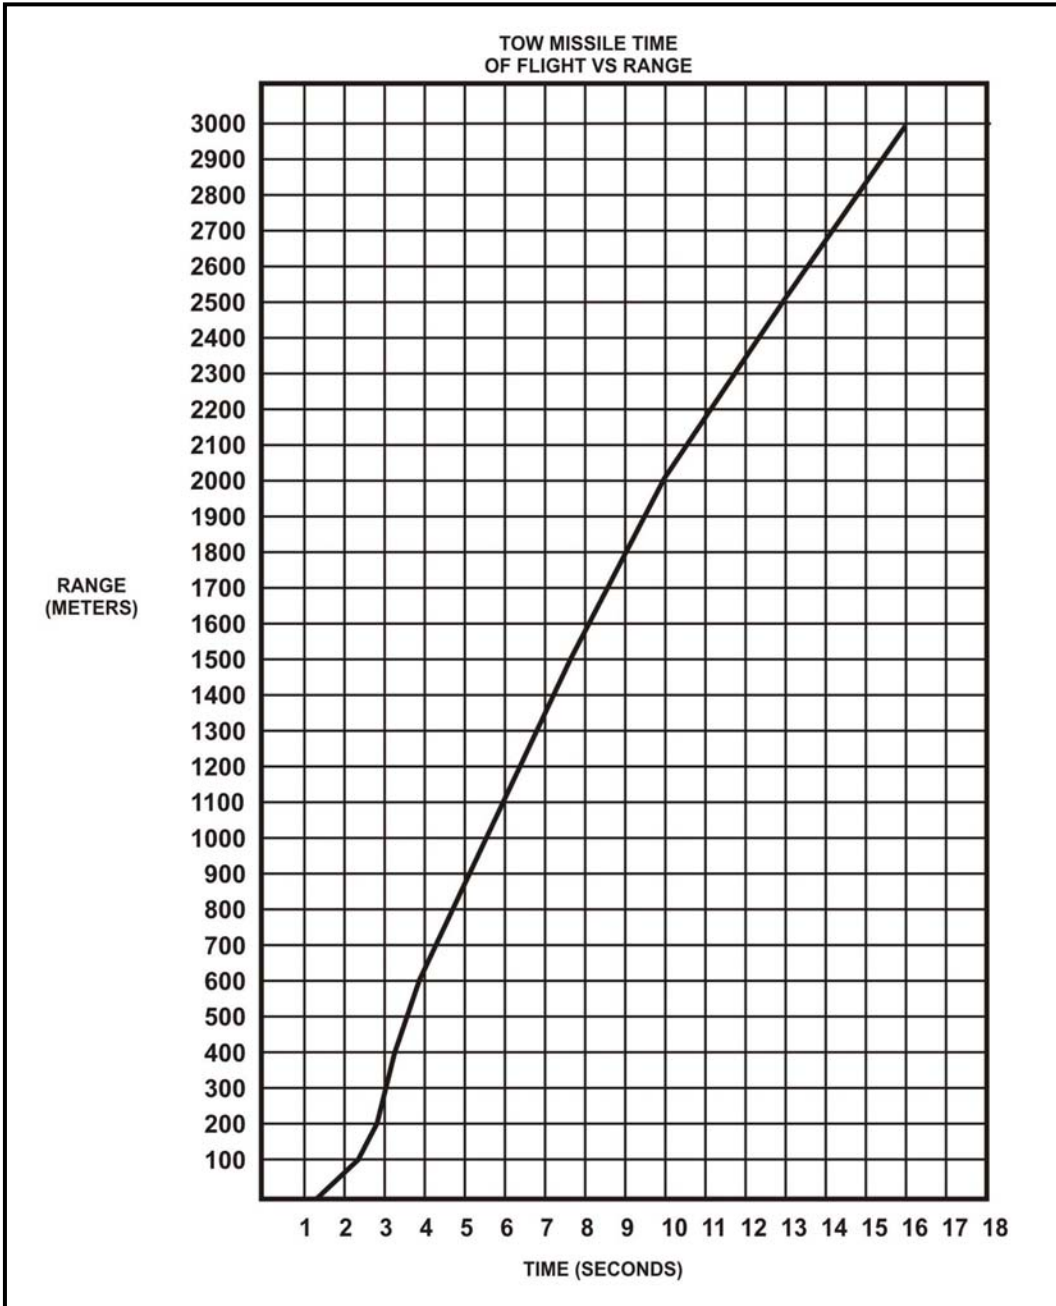
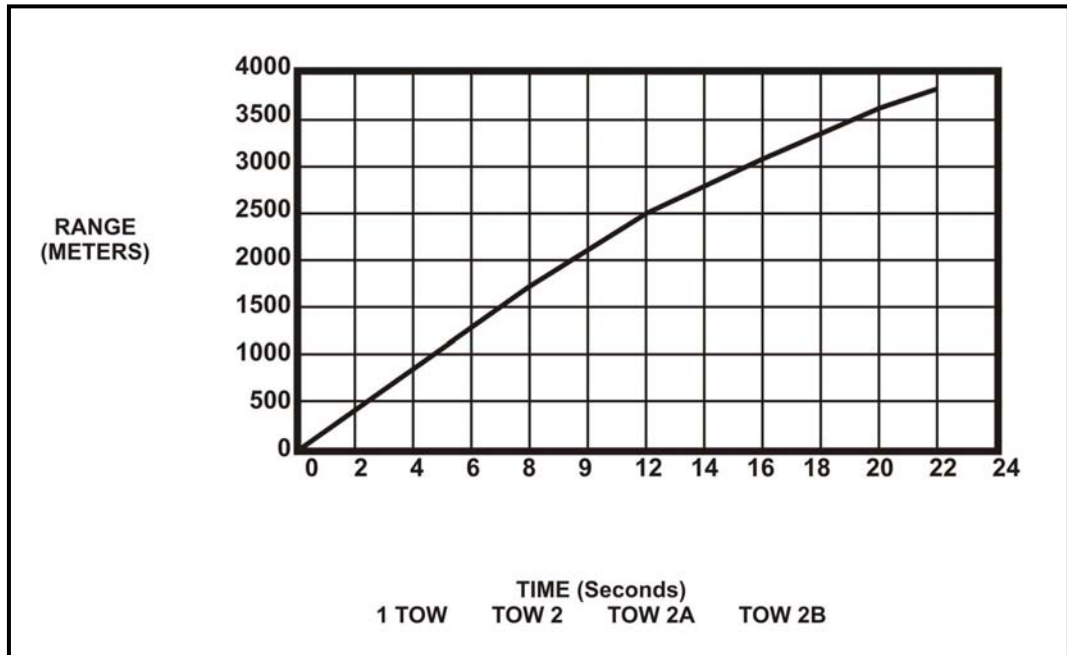

Figure A-2. TOW missile time-of-flight versus range.
Figure A-3. TOW missile time-of-flight versus range (kilometers).
18. TOW Missile Time-Of-Flight Versus Range. Figure A-2 (page A-4) and Figure A-3 (page A-5) show the time of flight of the TOW missile to various ranges. Using these figures allows the squad leader to accurately calculate the time it takes for the missile to reach its target.